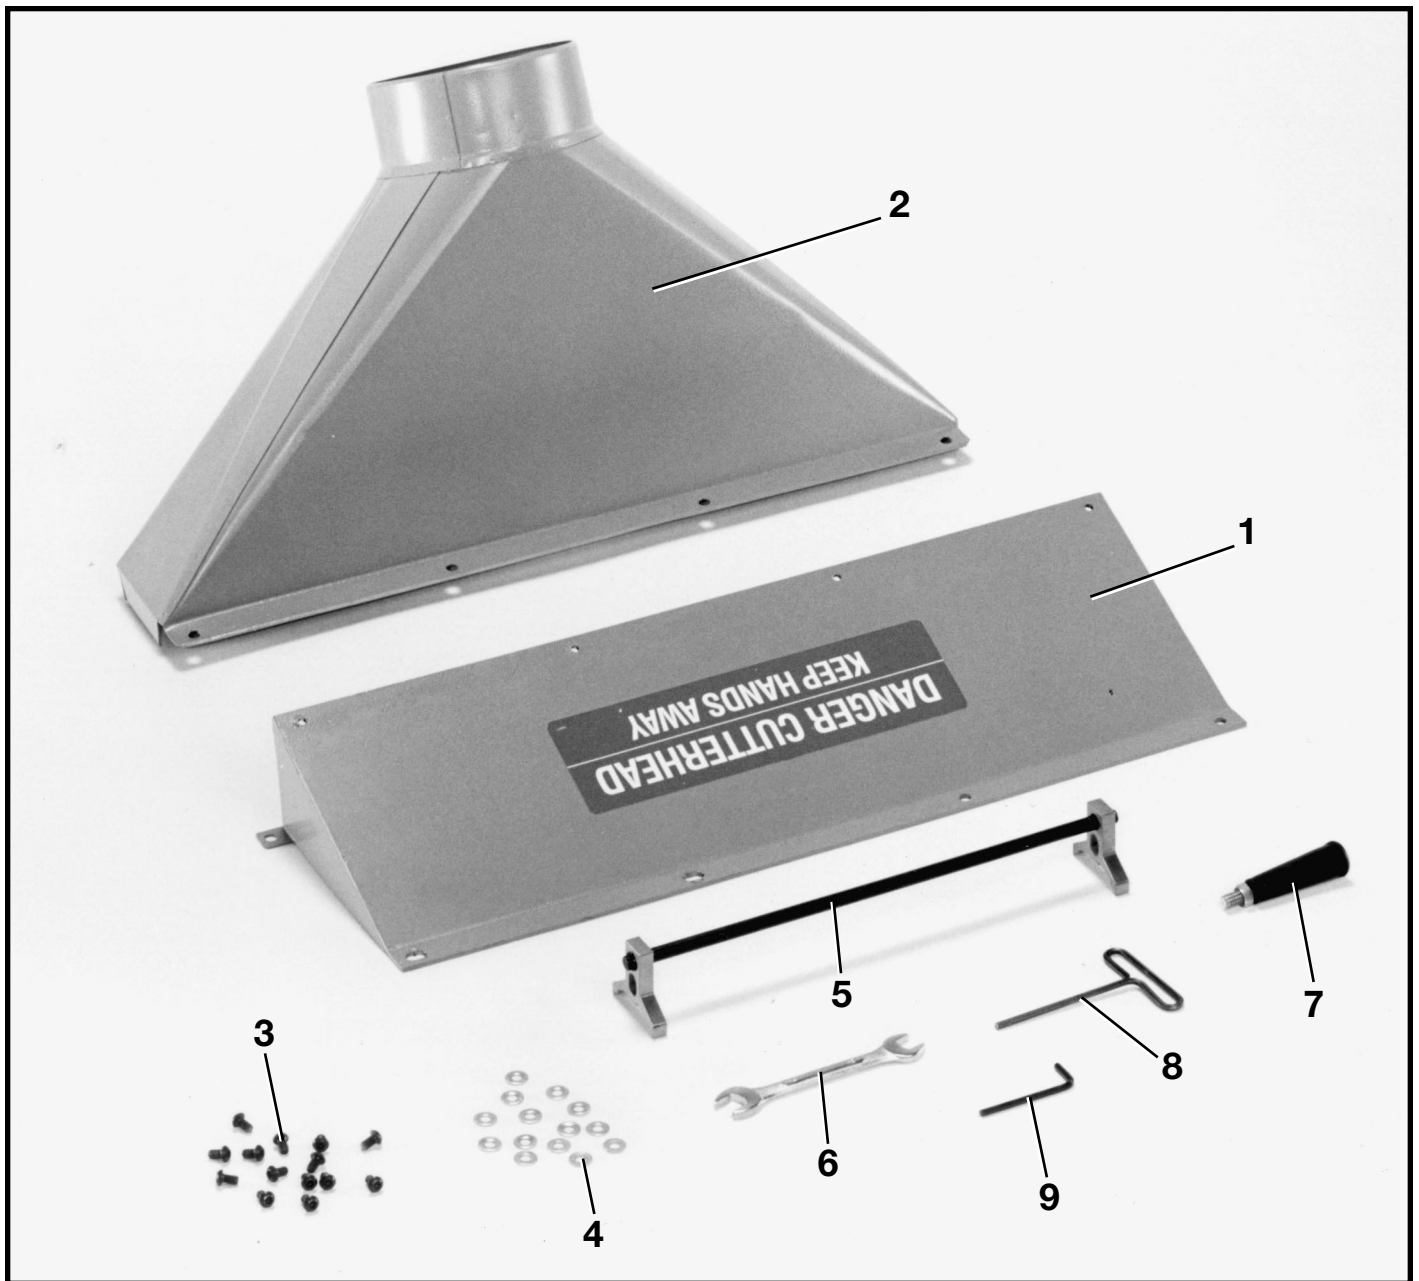

Fig. 2
1. The 24 planer is shipped complete in one container mounted to a shipping skid. Remove the wooden crate from around the machine. The planer is shipped with the motor, motor pulleys and belts assembled to the machine. Fig. 2, illustrates the loose items supplied with the machine.